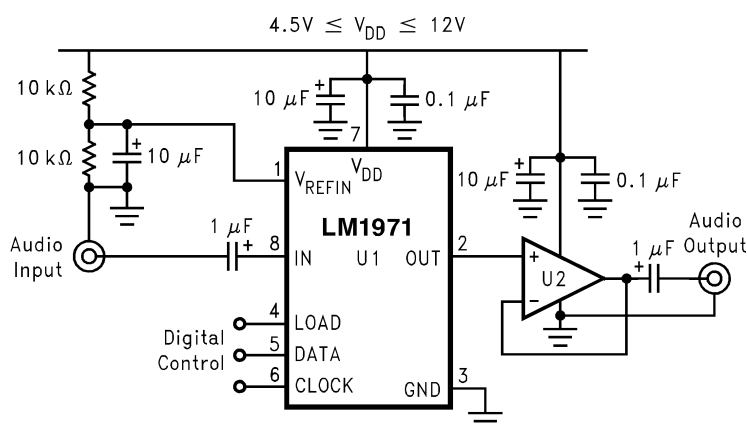

Figure 1. Typical Audio Attenuator Application Circuit
V_{REFIN} (1): The V_{REFIN} pin provides the reference for the analog input signal. This pin should be biased at half of the supply voltage, V_{DD}, as shown in Figure 1 and Figure 19.